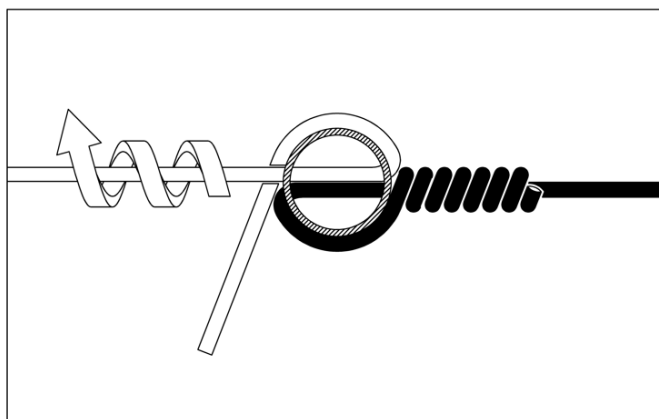

Fig 12. Wrap the second wire around itself.
6. Terminate the second wire by wrapping it around itself. (Figs 12 and 13).